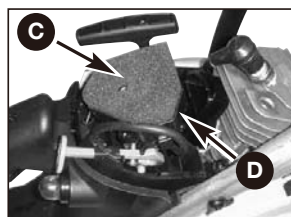

Fig. 15B
2. Lift the air filter **C** out of air-box **D** (Fig. 15B).